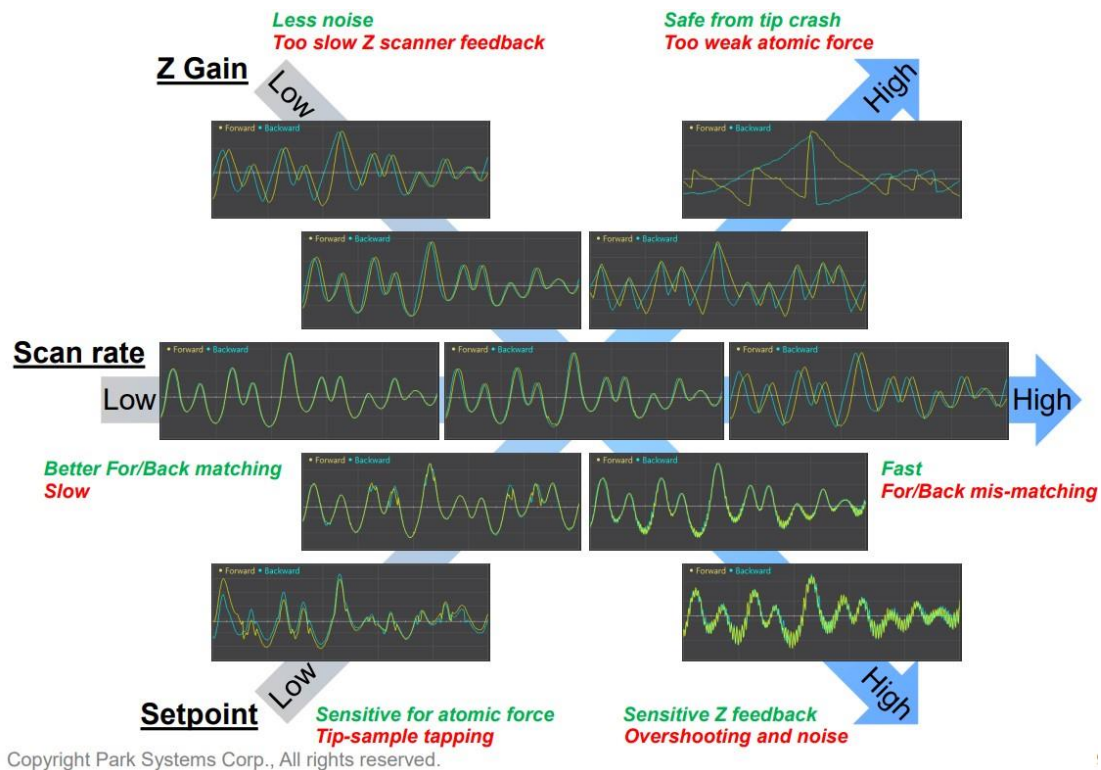

Figure 9: Effect of Gain and Setpoint on topography reading
- Generally, increasing gain will improve the matching of forward and backward curves, but will also increase the amount of noise. See **Figure 9** to visualize the effect of Setpoint, Z Gain, and Scan Rate on the scan quality.